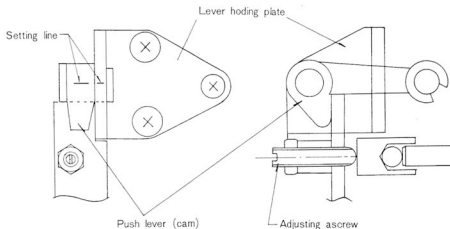
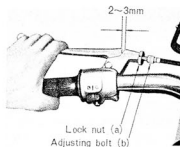

Fig. 4-8-14
Fig. 4-8-16
- 2) As shown in Fig. 4-8-14, a marking line is stamped on both cam (push lever) and lever holding plate. Adjust the length of the clutch cable so that both marking lines are aligned.
In this case, the marking line on the cam (push lever) should not be above that of the lever holding plate. For this adjustment, use the cable adjusting screw as shown in Fig. 4-8-16.
- 3) After determining the cam position (or length of the cable), adjust clutch lever play (Fig. 4-8-16) to 2-3 mm ($\frac{1}{16}$ ~ $\frac{1}{8}$ in.) by turning the adjusting screw (Fig. 4-8-14) in or out.